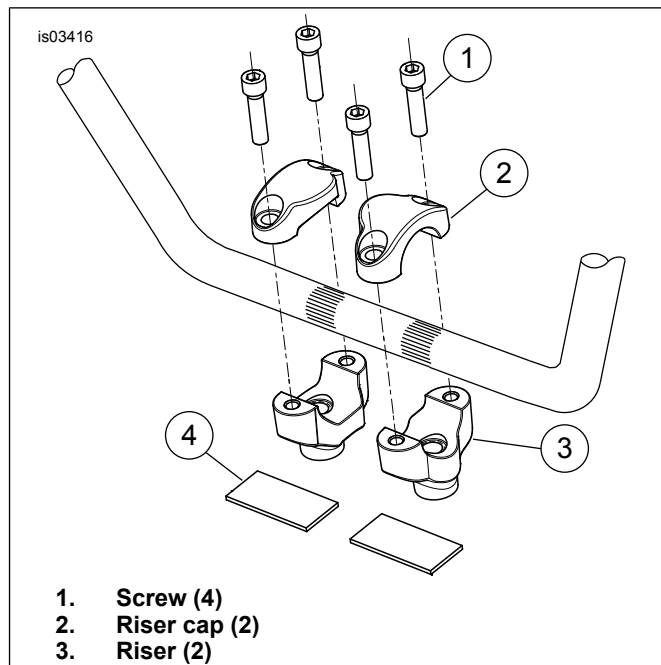

Figure 3. Riser Orientation - FLSTF
- b. See Figure 3. Loosely install new risers (Kit Number 56789-05), oriented as shown, to the upper triple tree using the stock screws, lock washers and washers. Install ground cable and internal tooth lock washer onto the right side riser screw.
- d. Install two riser caps (2) onto the risers over the handlebar using four screws (1) included in the kit.